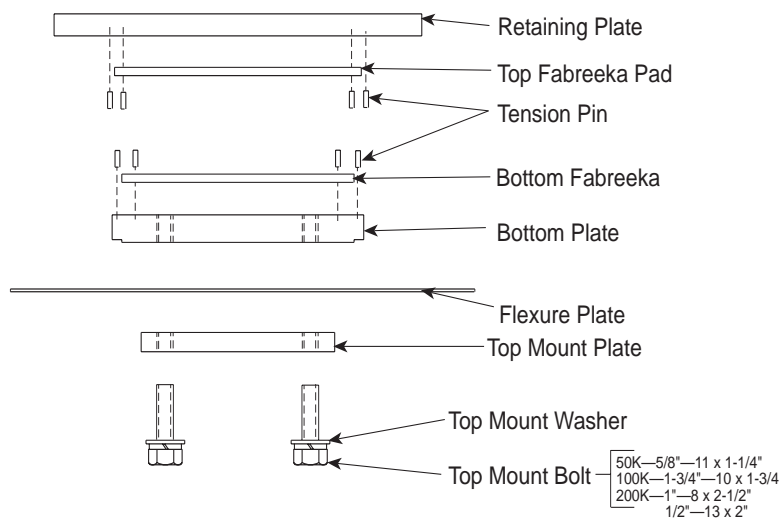

Figure 2.2 Retaining Plate Assembly
2. Place the bottom plate on top of the flexure plate (Figure 2.2).